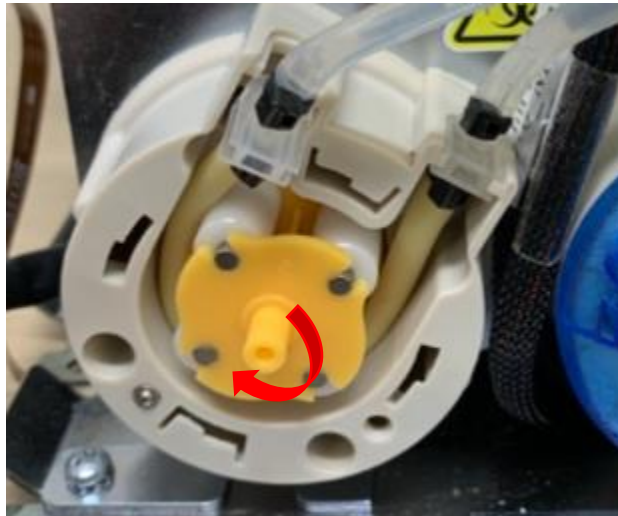

Figure 28
- 5.2. Starting on the left side of the Wash Pump, insert the grooves of the collar on the new tubing into the slot on the Wash Pump. Slowly work the tubing into the Wash Pump in a counterclockwise direction. Spin rotor by hand if needed to help install tubing. Once the tubing is in place, insert the grooves of the collar on the new tubing into the slot on the right side of the wash pump. Figure 28 shows correct placement for tubing.